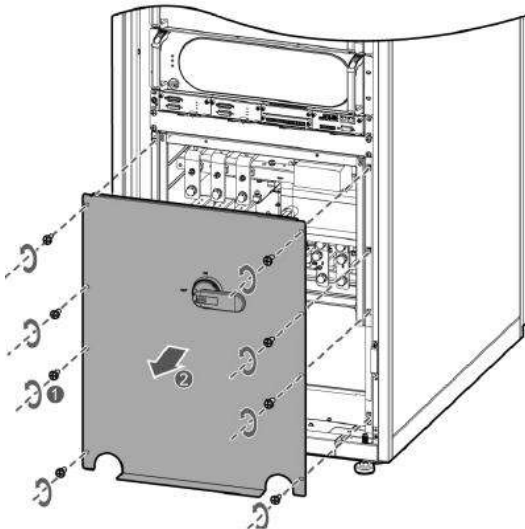
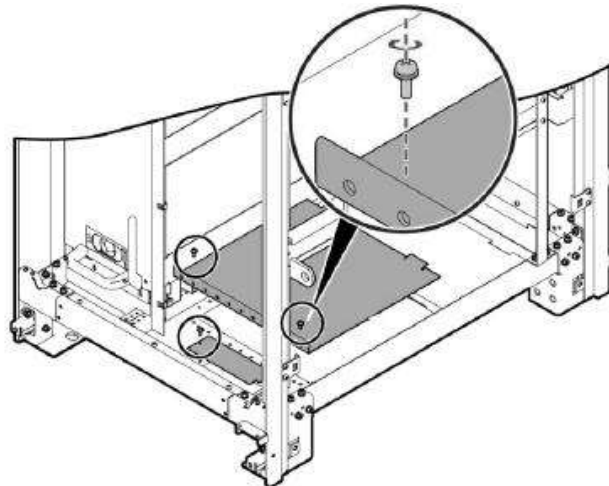

Fig. 2-21 Removal of distribution cover plate (bottom incoming, 300kVA)
Fig. 2-22 Removal of bottom wiring cover plate (500kVA)
- Step 1: Open the front door of the cabinet, remove the front distribution cover plate of the distribution plug box (the front distribution cover plate of the bypass cabinet), and remove the wiring cover plate of the power cable and the control cable at the bottom of the cabinet from the cabinet, as shown in Fig. 2-21 and Fig. 2-22.